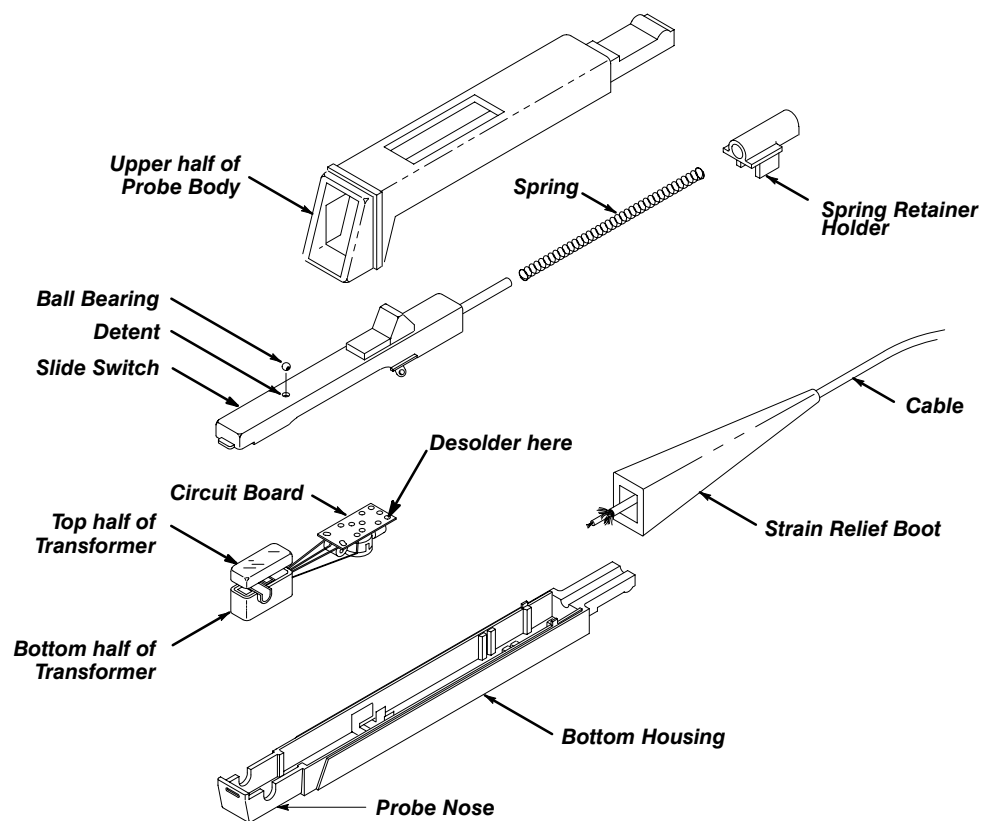

Figure 8: Disassembling the Probe
Use the following procedure to disassemble the probe for cleaning or repair. You will need a low power soldering iron with a fine point. Work over a smooth, clean surface so that you can easily find any small pieces that may drop. Refer to Figure 8.
- Step 8:** Desolder the ground connection on the circuit board. See Figure 8.